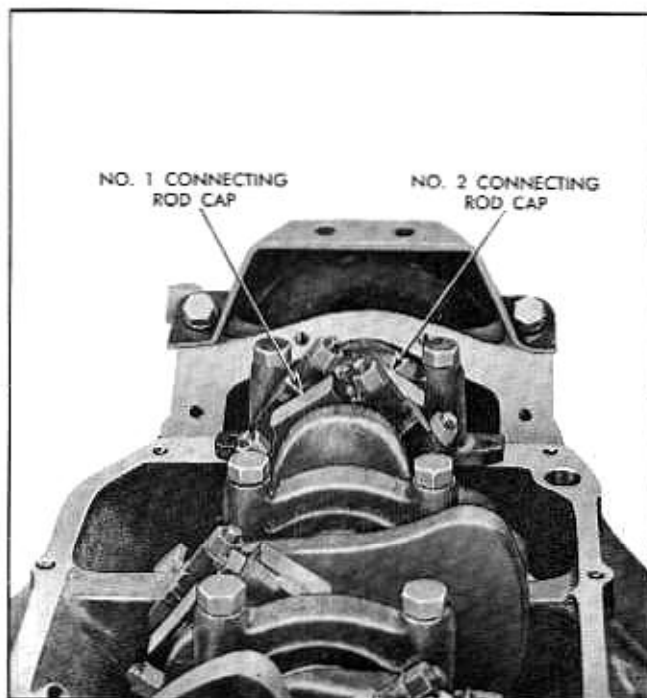

Fig. 6-37 Crankshaft Positioned for Removal of No. 1 and 2 Connecting Rod Caps
4. Rotate crankshaft so crank pin carrying assembly to be replaced projects straight downward (Fig. 6-37).
a. Turn crankshaft so that two opposite pistons are near bottom of stroke (Fig. 6-37). This will put crankpin on center line of block and expose rod nuts most advantageously. NOTE: Crankshaft can be turned by using a  $1\frac{5}{16}$ " socket and handle on harmonic balancer attaching screw.